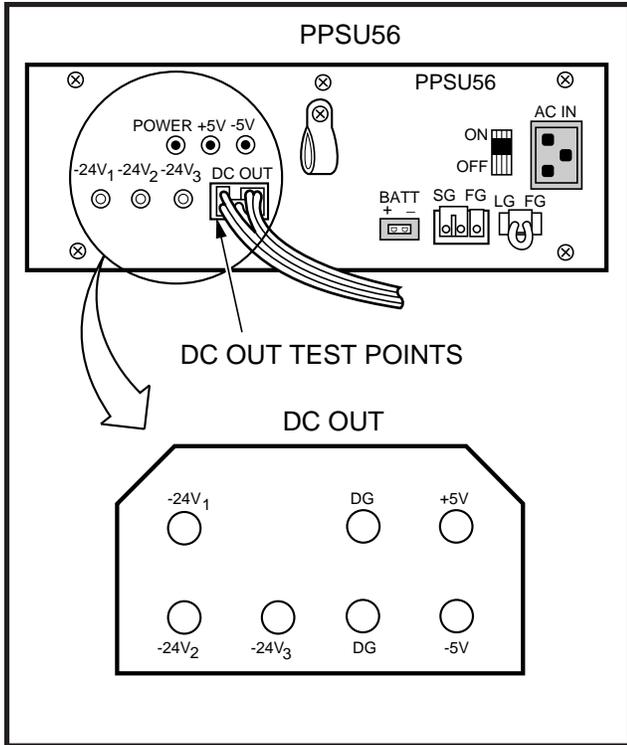

FIGURE 5-4
- 1) Remove screws (2) on right side of the KSU.
4.12 DK56/96. Refer to Figures 5-4 and 5-5 and remove the power supply in accordance with the following steps:
4.22 DK56/96. Refer to Figure 5-4 or 5-5, and replace the power supply in accordance with the following steps: